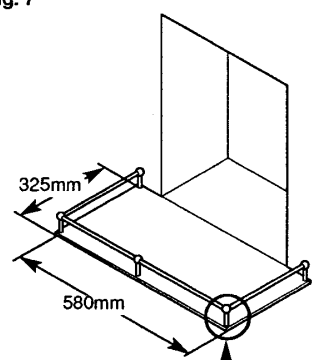

Fig. 8
3. Alternatively, a fender rail or upstanding edge of 50mm (2in) height can be fitted to the periphery of the 13mm ($\frac{1}{2}$ in) non-combustible hearth (Fig. 8).